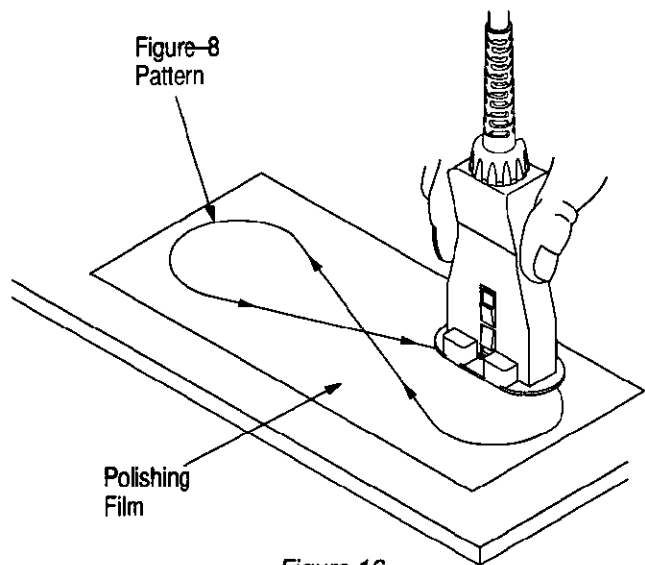

Figure 16
3. Place the resilient pad on the polishing surface; place a piece of 5- $\mu$ m film on the pad. Beginning with very light pressure, use a figure-8 pattern to dry-polish the connector on the film until the epoxy on the tips of the ferrules turns light blue. Vary the pressure and/or rotate the fixture assembly as necessary. See Figure 16.